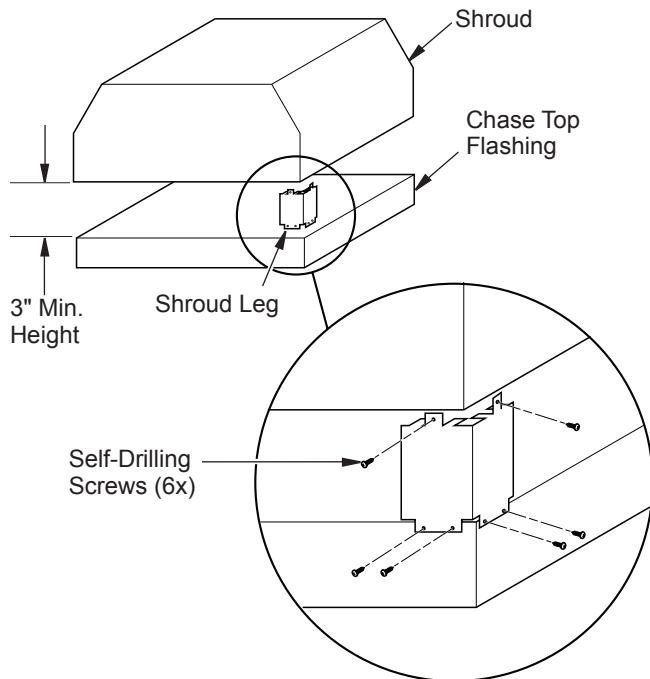

Figure 12 - Shroud Leg Installation
2. Secure shroud legs with self-drilling screws as shown in Figure 12. **Note:** Both corner edges should be flush.